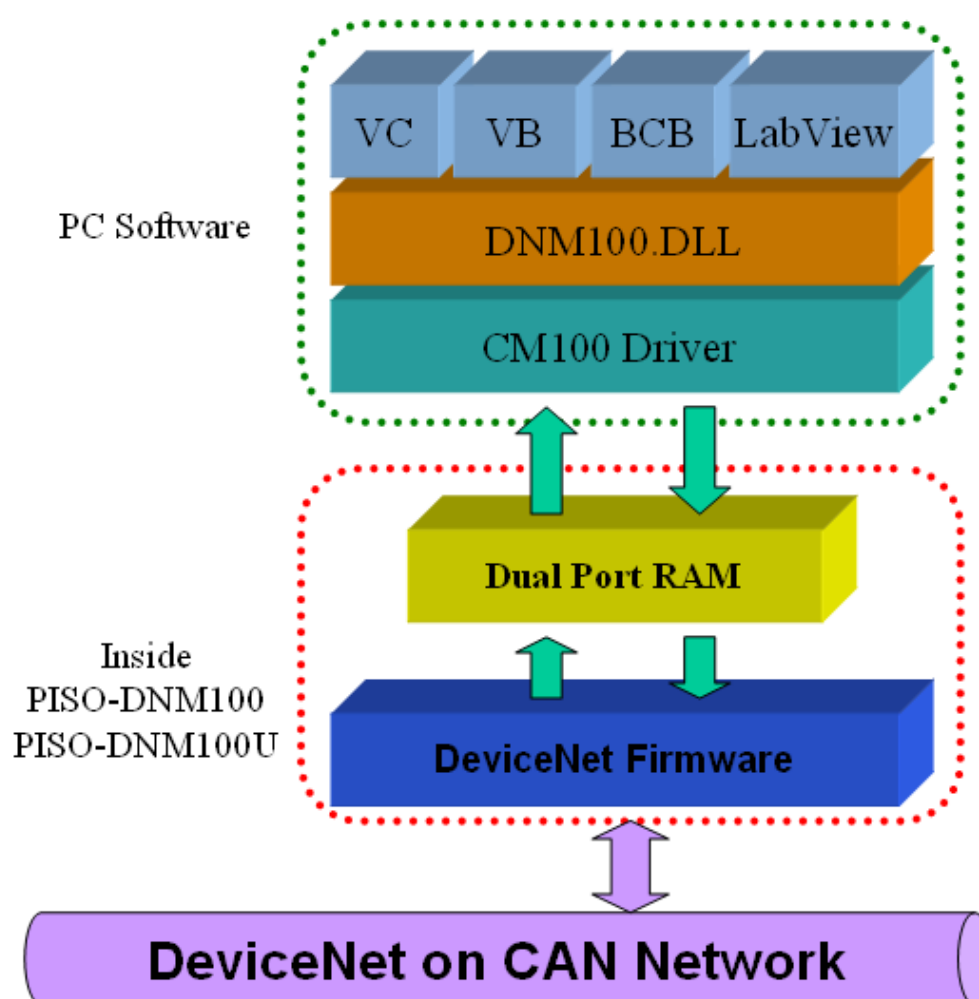

Figure 1.2 PISO-DNM100(U) illustration.
- Allen-Bradley(AB) 1769-ADN DeviceNet Adapter
1.4 PISO-DNM100(U) Architecture
The PISO-DNM100(U) provides users to establish DeviceNet network rapidly by Master/Slave connection model. The PISO-DNM100(U) is a high-performance DeviceNet master board with one CPU inside. This architecture of the PISO-DNM100(U) almost doesn't cost CPU resource and really increases the work efficiency on DeviceNet network. Applying the PISO-DNM100(U), users don't need to take care of the detail of the DeviceNet protocol. The inside firmware implements the DeviceNet protocol to help users to establish the connection with DeviceNet slave devices easily. The illustration about the idea is shown as Figure 1.2.